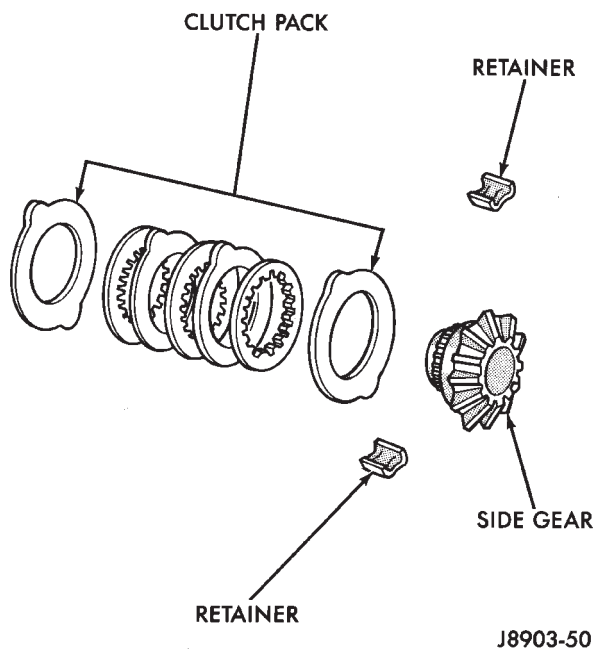

Fig. 14 Clutch Disc Pack
(1) The clutch discs are replaceable as complete sets only. If one clutch disc pack is damaged, both packs must be replaced. Lubricate each component with gear lubricant before assembly and installation.
(2) Assemble the clutch discs into packs and secure disc packs with retaining clips (Fig. 14).
(3) Position assembled clutch disc packs on the side gear hubs.